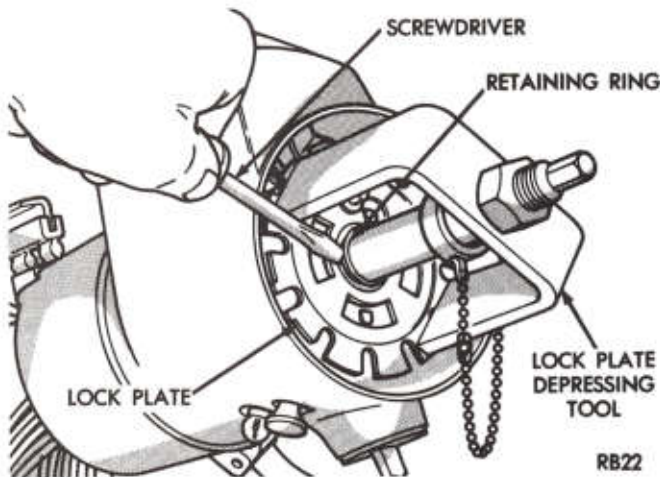

Fig. 4—Removing Lock Plate Retaining Ring Using Tool C-4156
- (b) **Tilt Column:** Depress lock plate with Tool C-4156 and pry retaining ring out of groove with screwdriver (Fig. 4). **The full load of the upper bearing spring should not be relieved;** if it is, the retaining ring will turn too easily making removal more